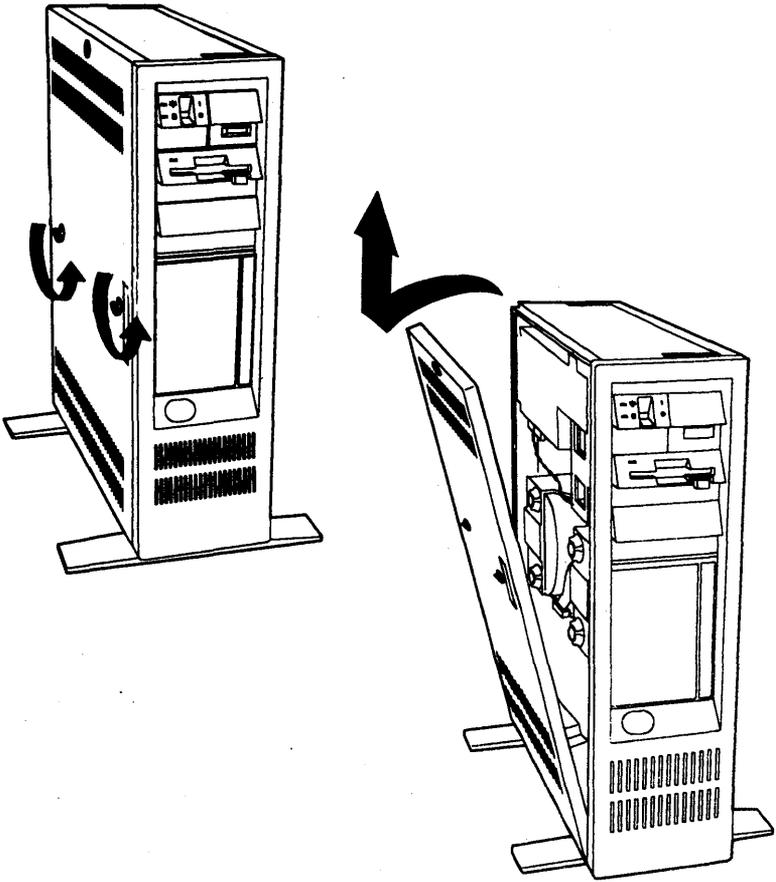

Figure 21: Loosening the Model 60 Cover Mounting
14. Loosen the two cover mounting screws with a coin, as shown in Figure 21: